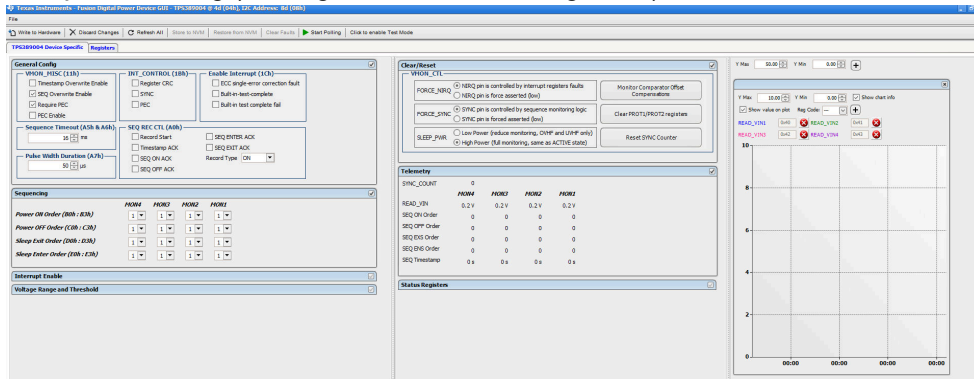
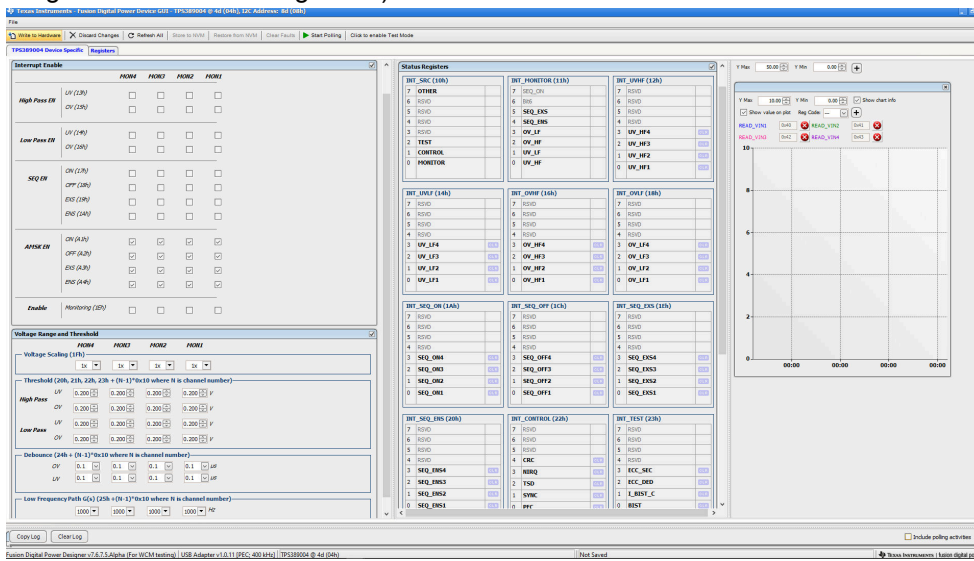
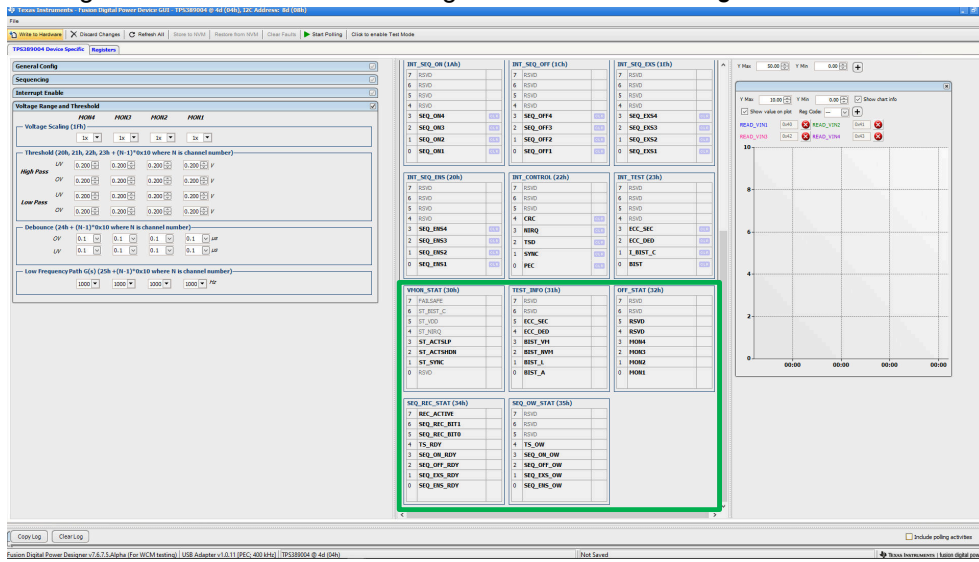

Figure 4-13. Fusion Digital Power Device GUI - TPS389006Q1EVM (Image #1)
Figure 4-14. Fusion Digital Power Device GUI - TPS389006Q1EVM (Image #2)
Figure 4-15. Fusion Digital Power Device GUI - TPS38900Q1EVM (Image #3)
8. Once the EVM is discovered and *Click to Configure* has been selected, the GUI is similar to Figure 4-13, Figure 4-14, Figure 4-15.